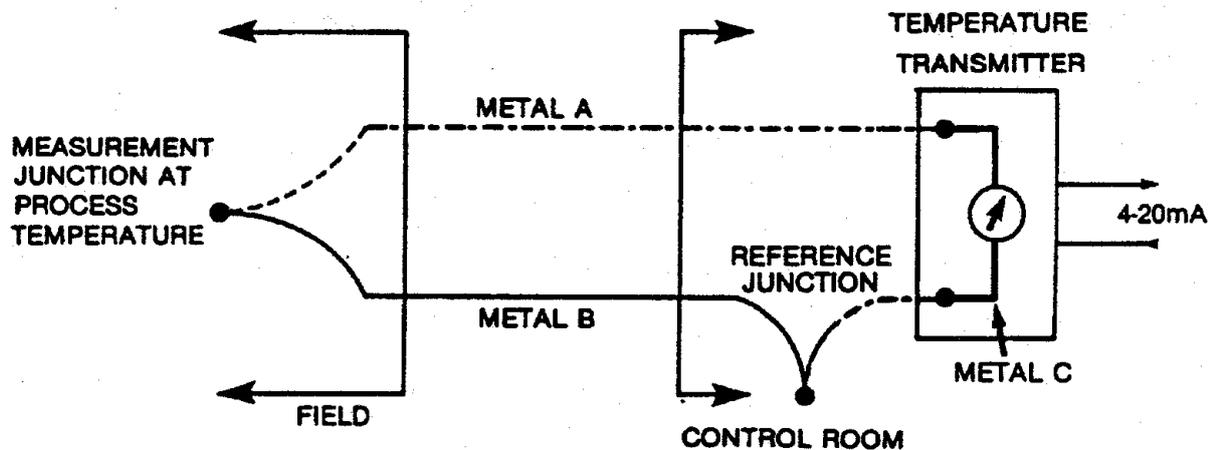

Figure 4: A Simplified Thermocouple Temperature Transmitter Circuit
- As shown in Figure 4, the temperature measurement circuit consists of a thermocouple which is connected directly to the temperature transmitter.